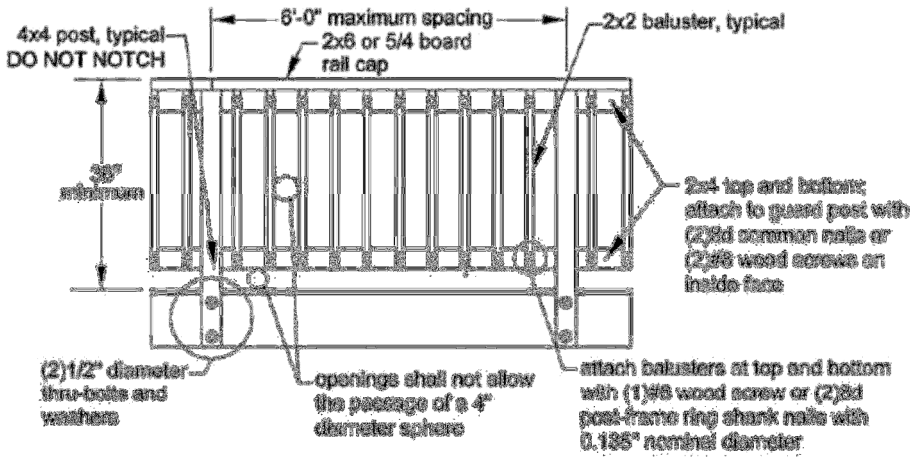

Figure 1
- Elevation view as seen from the sides and front. (see figure 1 and 6 for examples)
8. Decks located more than 18 inches above grade shall be provided with a guardrail not less than 36 inches in height. Balusters shall be spaced so that a 4 inch sphere cannot pass through. All guardrails, regardless of the deck height, shall be a minimum of 36 inches high. (See Figure 1 for examples of guardrail examples.)